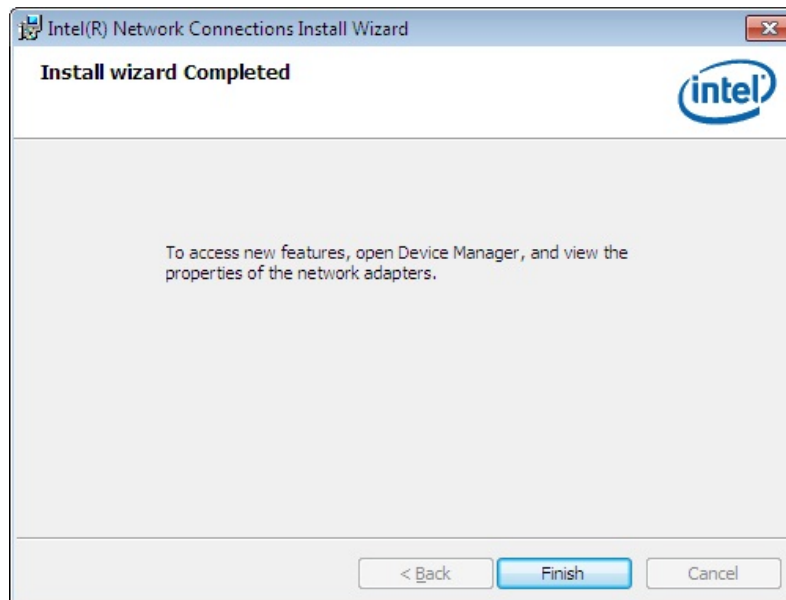

Figure 6-21: LAN Driver Installation Complete
Step 14: When the driver installation is complete, the screen in **Figure 6-21** appears.